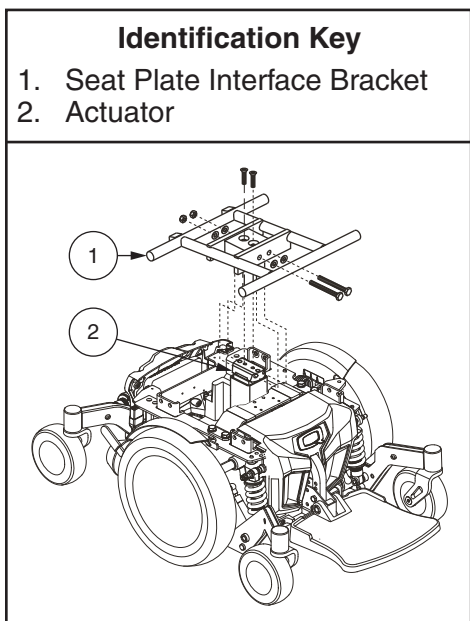

Figure 9. Power Elevating Seat Actuator
1. Place the seat plate interface bracket onto the actuator. **See figure 9.**